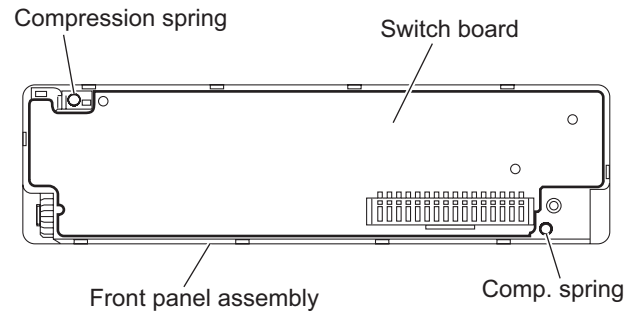

Fig.12
- (3) Lift the switch board from the front panel assembly little by little and take out the switch board. (See Fig.12)
When removing the rear cover assembly and switch board, be careful not to lose the compression spring and comp. spring. (See Fig.12)